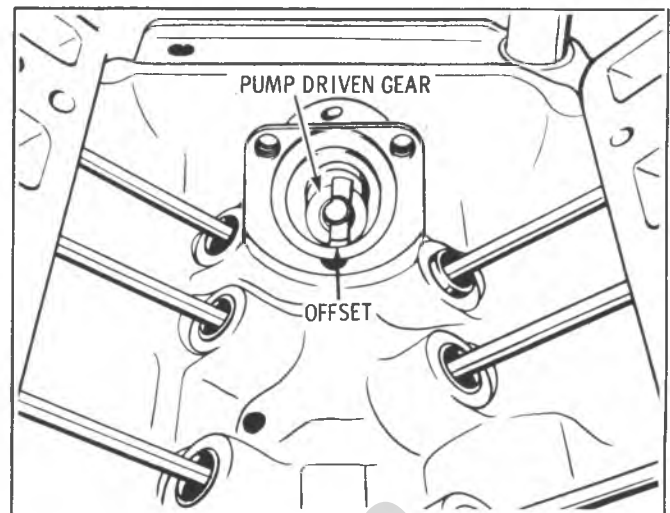

Fig. 6A6-24--Offset on Pump Driven Gear
2. Position engine on #1 cylinder T.D.C. Align mark on balancer with zero mark on indicator. Refer to Fig. 6A6-24 for position of injection pump driven gear. (The index is offset to the right when number one is a T.D.C.).